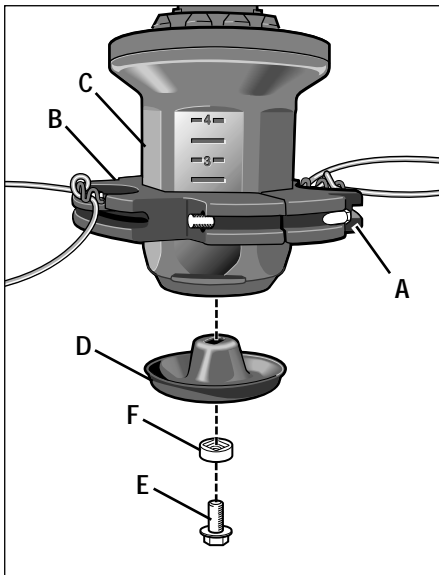

Figure 5-3
2. Two bolts (A, Figure 5-3) secure the trimmer head (B) to the spindle head (C). Loosen both bolts (not the nuts) just enough to open up the trimmer head and allow it to slide down the spindle head and past the two stops. Do not attempt to remove the bolts completely – they are permanently attached.
4. If the wear cup (D, Figure 5-3) is worn, replace it. Use a 1/2" socket wrench to remove the screw (E, Figure 5-3) and washer (F). Install the new wear cup and reinstall the washer and screw. Tighten the screw securely.